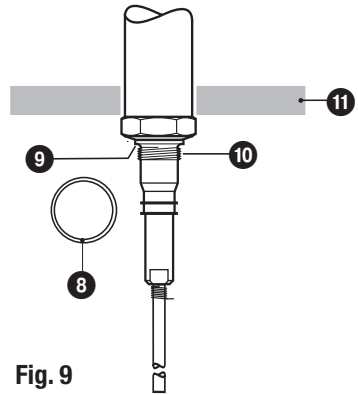

Fig. 9
8. Place supplied joint ring ⑧ onto seating surface of the threaded standpipe or flange. **Fig. 9**
9. Apply a light smear of heat resistant silicone grease (e.g. WINIX® 2150) to electrode thread ⑦.